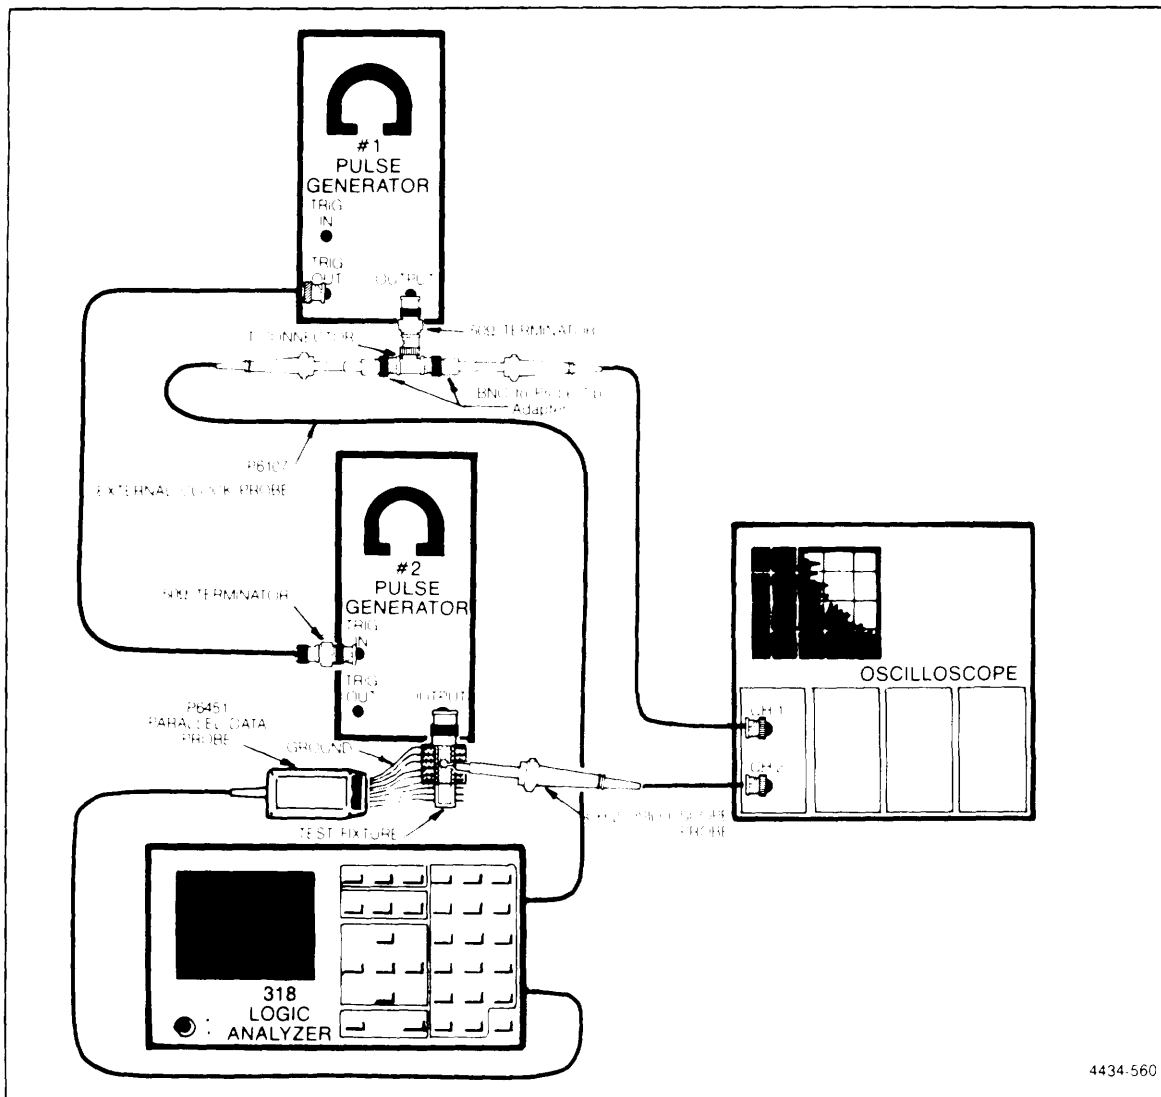

Figure 5-31. 318 Glitch data acquisition test setup.
- a. Refer to Figure 5-31. Connect a 50  $\Omega$  terminator to the #1 pulse generator's OUTPUT. Connect a BNC T-connector to the 50 Q terminator. Connect the P6107 External Clock probe to one side of the BNC T-connector.